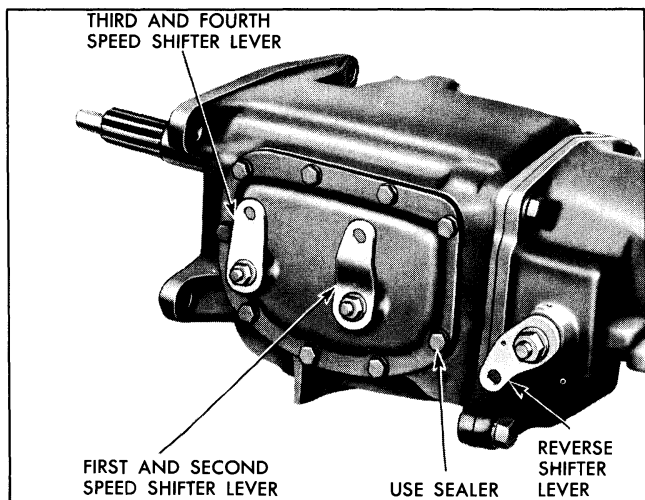

Fig. 7-38 Installing Rear Extension Mount
6. Install two transmission extension bracket to cross member retaining nuts. Tighten to 25-35 lb. ft. torque (Fig. 7-38).